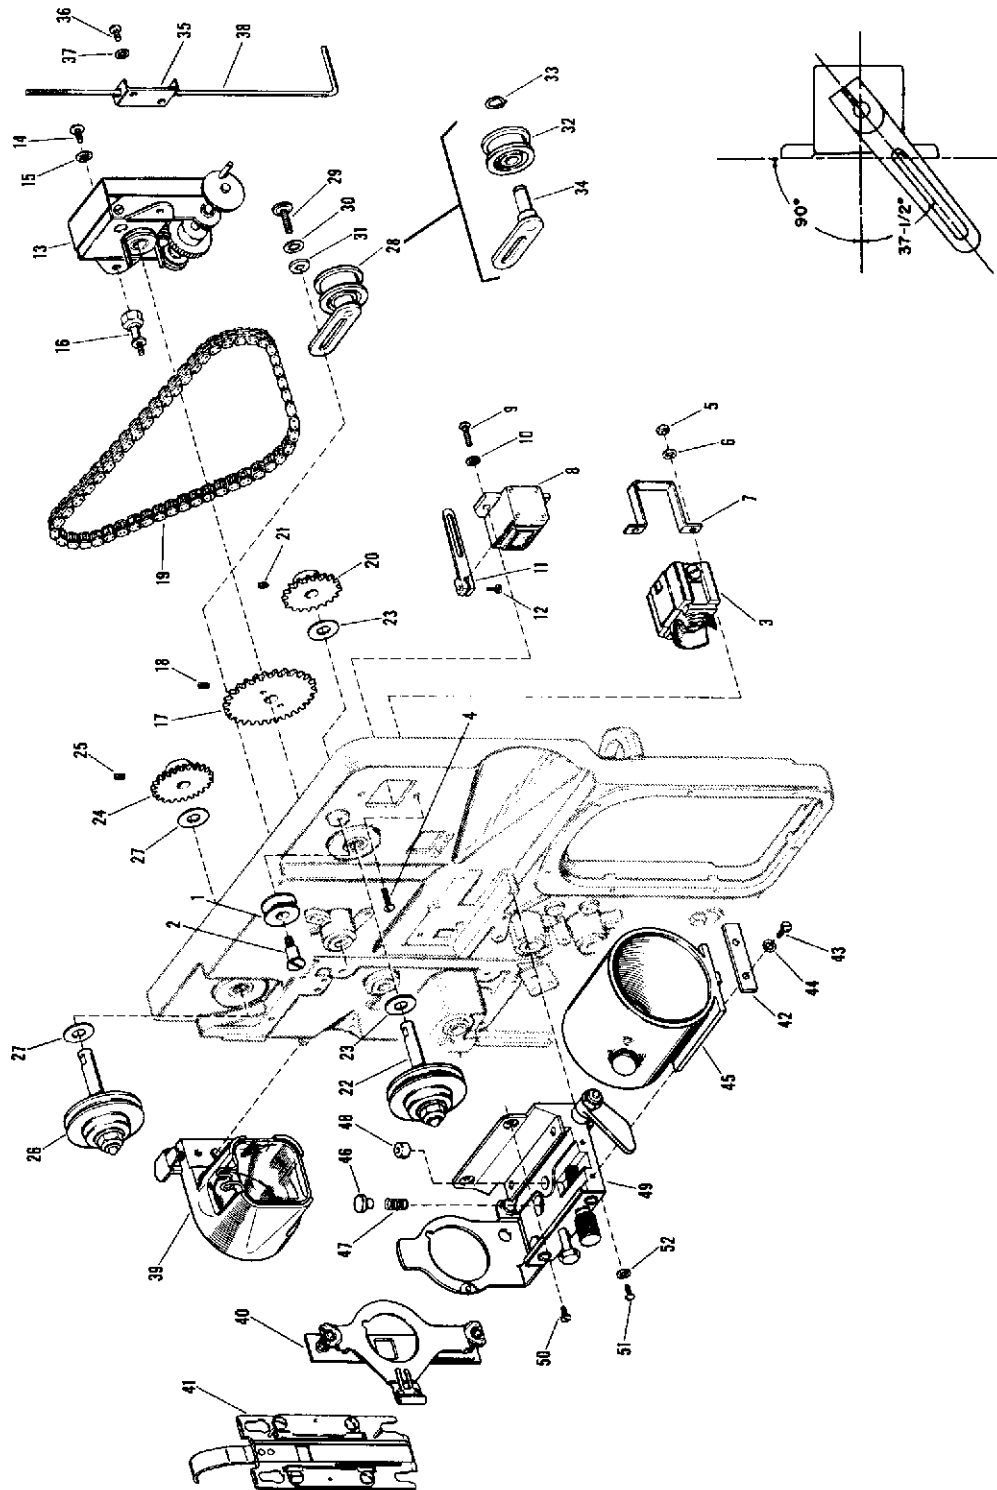

Figure 2-5. Removing Pulleys, Film Counter, Aperture Plate and Pressure Plate
2-15. COUNTER AND COUNTER DRIVE MECHANISM. (See figure 2-5.) Remove two each of screws (9 and 14) and lock washers (10 and 15) and lift assembled counter (8) and counter drive mechanism (13) from mechanism plate. Do not disassemble counter drive arm (11) from counter (8) unless one or the other of these two parts requires replacement.
Key for Figure 2-5
2-16. FEED AND TAKE-UP PULLEY ASSEMBLIES. (See figure 2-5.) Loosen two screws (29) so that idler assembly (28) can be shifted to the right, thereby removing tension from drive chain (19). Slip drive chain from sprockets (17, 20 and 24). Loosen set screws (21 and 25), and remove sprockets (20 and 24), pulleys (22 and 26) and thrust washers (23 and 27) from mechanism plate.
2-17. CONDENSER LENS ASSEMBLY. (See figure 2-5.) Place thumb of left hand on top of condensing lens lock lever and fingers beneath lens housing. Press down on lock lever to compress lock spring and pull condenser lens assembly (39) toward rear edge of mechanism plate until it comes free.
2-18. PRESSURE PLATE ASSEMBLY. (See figure 2-5.) Open film channel by pulling out on pressure plate release knob located on lens mounting assembly (49). Grasp handle of pressure plate (40) and pull outward gently and evenly to remove it from projector.
2-19. APERTURE PLATE ASSEMBLY. (See figure 2-5.) Retract shuttle teeth by manually turning the mechanism drive sprocket on back of mechanism plate. Grasp thumb handle at top of aperture plate
2-20. LENS HOLDER ASSEMBLY. (See figure 2-5.) Remove two screws (43), lock washers (44) and the lens holder stop plate (42). Slowly rack the lens holder assembly (45) forward by turning the knurled focusing knob on the lens mounting assembly (49) until the lens holder assembly is free. Be careful not to lose the friction button (46) and friction spring (47) located in a recess in the mounting assembly.
2-21. LENS MOUNTING ASSEMBLY. (See figure 2-5.) Remove three screws (50 and 51) and one lock washer (52) and lift the lens mounting assembly (49) from the mechanism plate. Invert mounting assembly and permit guide disc (48) to drop into hand.